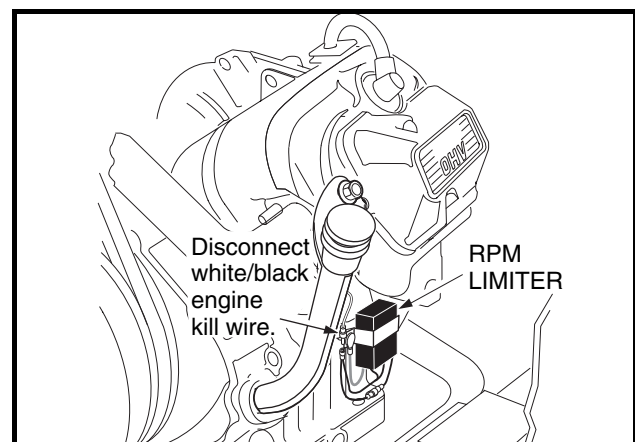

Figure 11-22 Disconnect White/Black Engine Kill Wire
2. Disconnect the engine-kill white/black wire at the bullet connector located next to the RPM limiter (**Figure 11-22, Page 11-22**).
3. Disconnect white/black wire bullet connector located at the engine RPM limiter (**Figure 11-22, Page 11-22**).